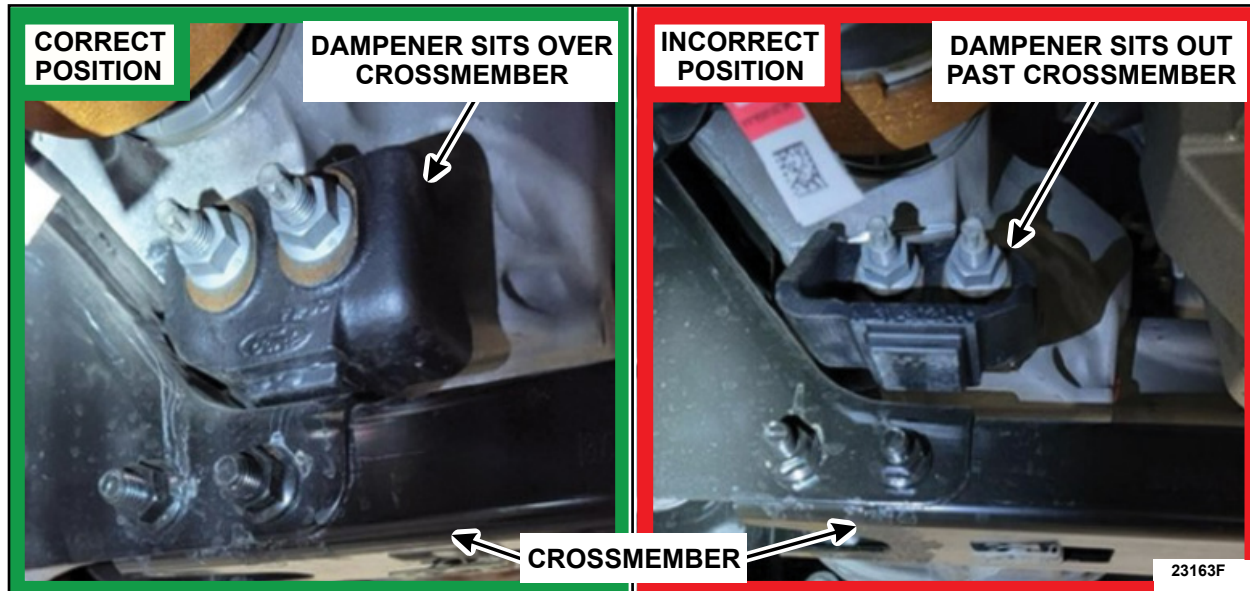

FIGURE 2
3. Inspect the front differential vibration dampener. See Figure 2. The front differential vibration dampener in the correct position will sit over top of the crossmember. In the incorrect position the front differential vibration dampener will sit out past the crossmember. Is the front differential vibration dampener installed correctly?